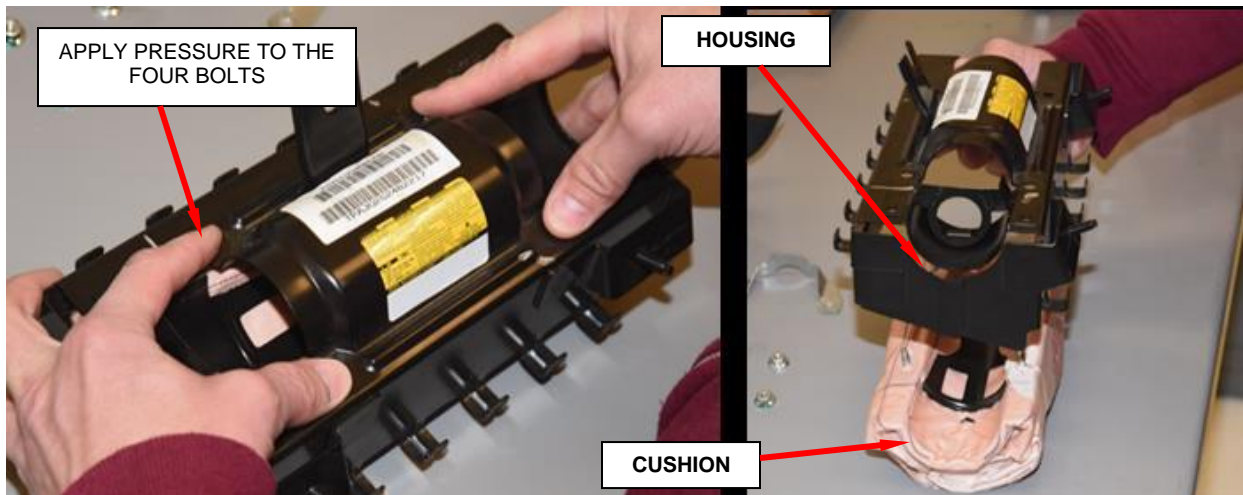

Figure 131 – Remove Airbag Cushion from Housing
- f. Remove airbag cushion from housing by applying pressure to the bolts, set cushion aside (Figure 131).